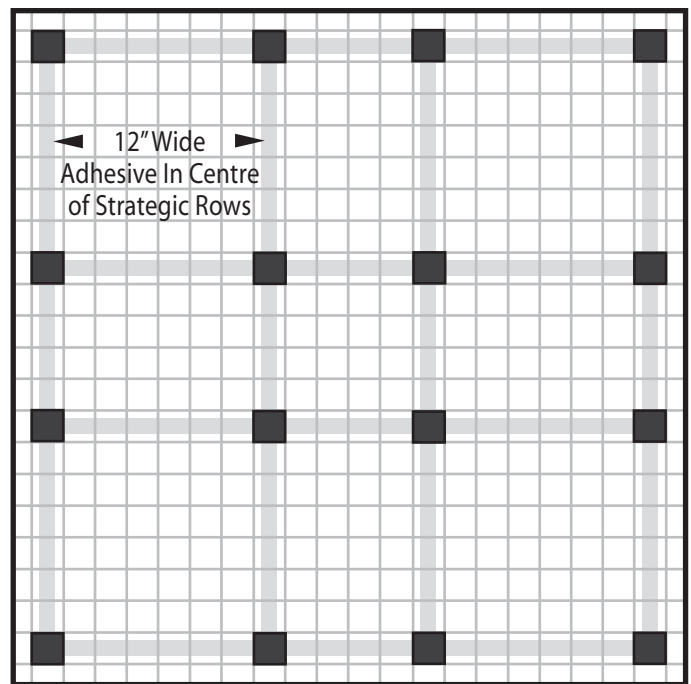

Fig. 5
- Begin by trowelling the factory supplied adhesive in a continuous 12 inch wide strip through the center of the grid lines where the strategic tiles rows will be placed (**Fig. 5**). The outer 6 inch edge of each tile must not be adhered at this point in the installation in order to allow compression of these tiles during the next installation step. The outer 6 inches of each tile will receive adhesive during the installation of the field tiles.